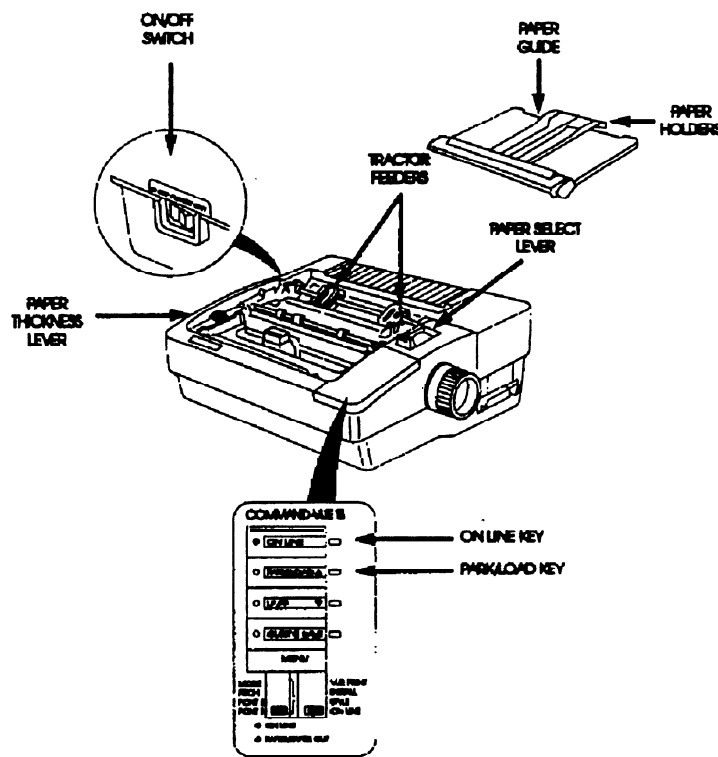

Figure 3-22. Printer
- (1) Press the ON LINE key to turn the printer offline. (See Figure 3-22.)
- (2) Remove the paper guide.
- (3) Move the paper select lever to the forward position.
- (4) Unlock the lock levers on the tractor feeders and adjust them to the approximate paper width.
- (5) Open the tractor feeder covers and place the paper on the sprocket pins. Close the covers to clamp the paper.
- (6) Adjust the tractor feeders until the paper is just taut between them, and lock the levers.
- (7) Reinstall the paper guide. Make sure the guide lies flat.
- (8) Move the paper holders from the sides into the middle of the paper guide.
- (9) Press the **PARK/LOAD** key to advance the paper to the starting printing position.